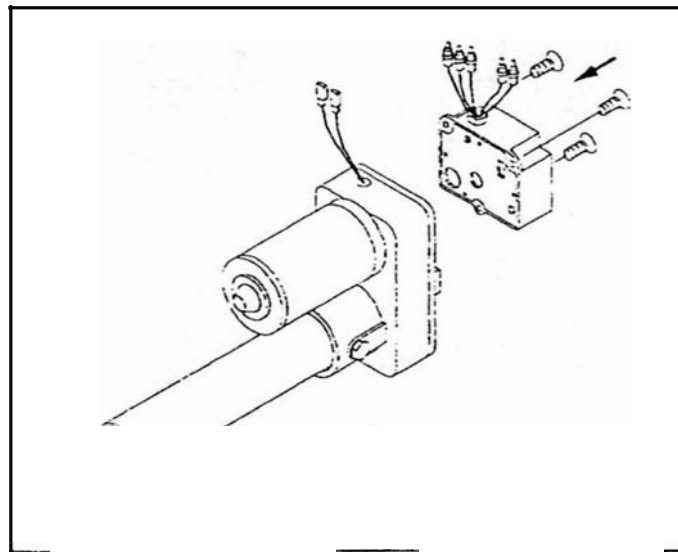

Fig.11
3. Tighten the VR unit. (See Fig.11)